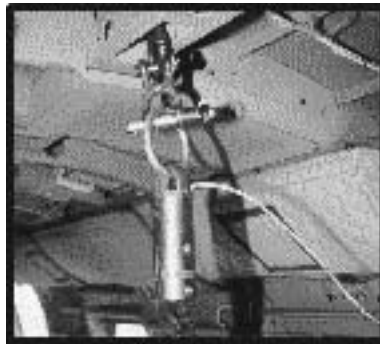

Figure 5-11. Primary Anchor
(1) When rigging the CH-46E hell hole station for fast rope operations, the CH-46E Interface Kit is used. This system incorporates two steel double cleavices, two quick release pins, two steel locking carabiners, and a cargo sling.
(2) Attach one double clevice to the rescue pulley attachment point with a carabiner and lock the gate.
(3) Connect the fast rope to the double clevice utilizing the quick release pin. This is the primary anchor (Figure 5-11).